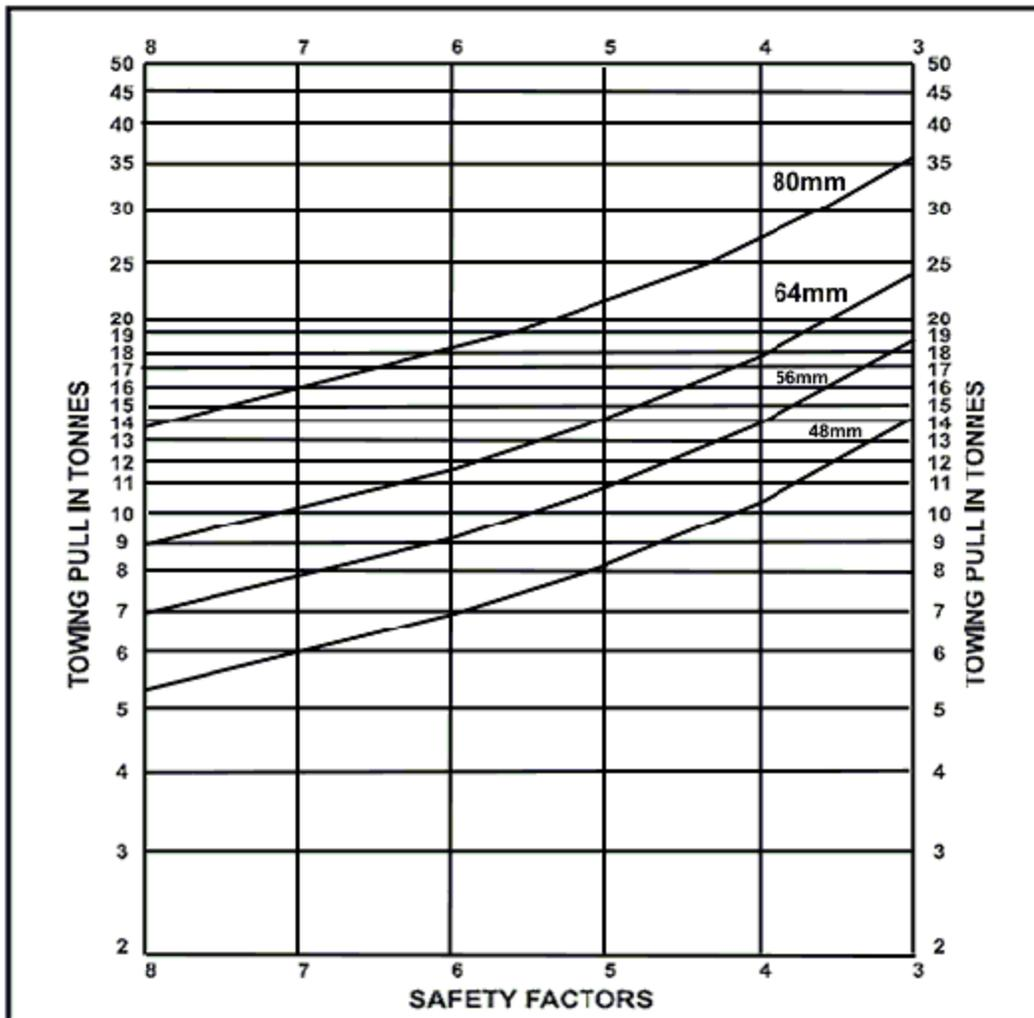
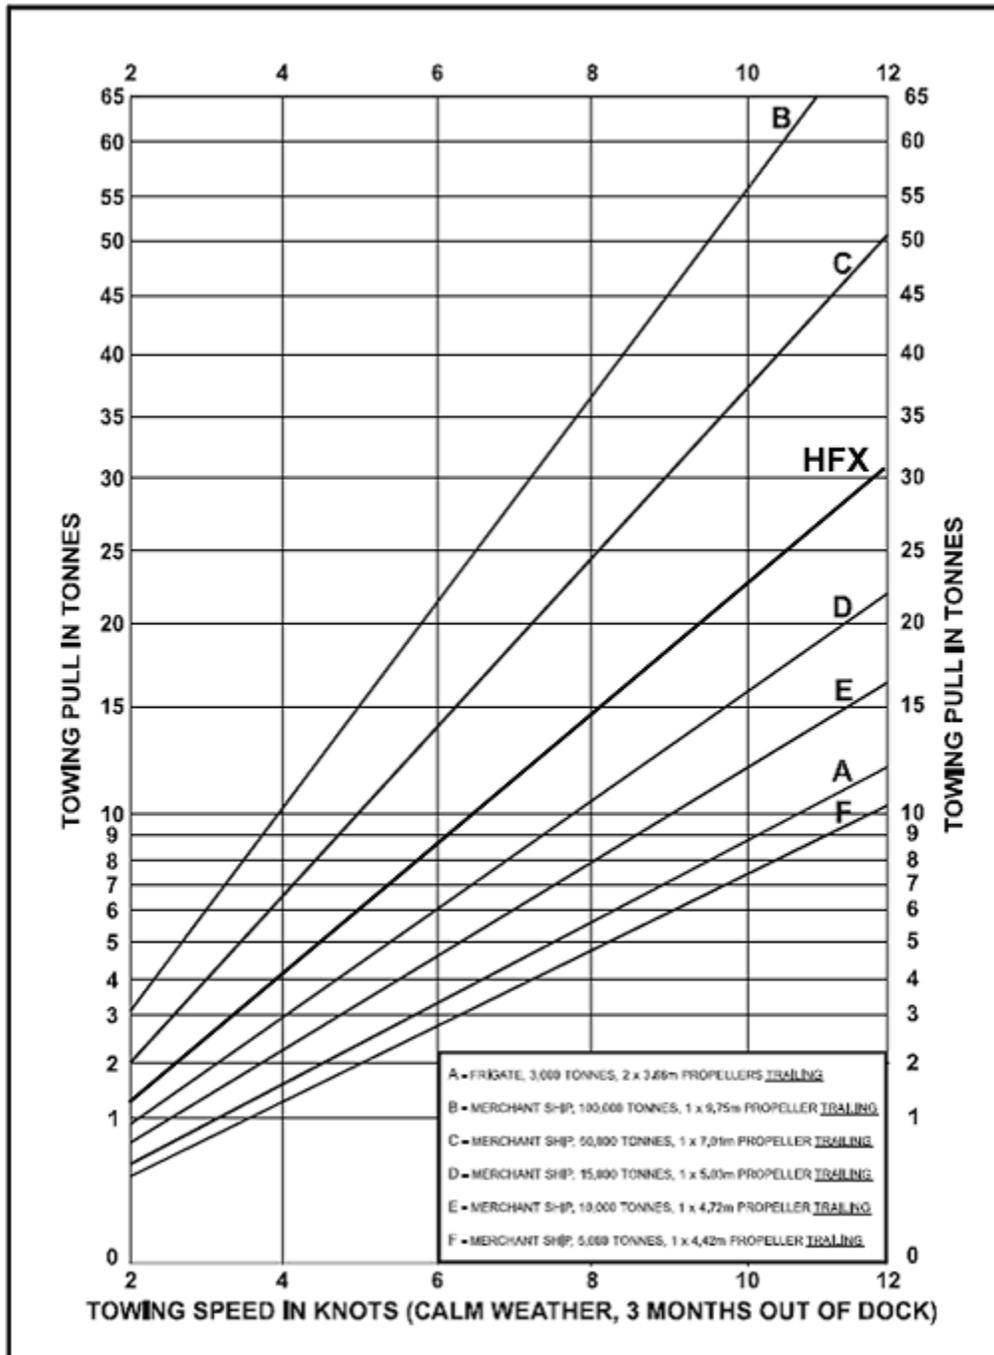
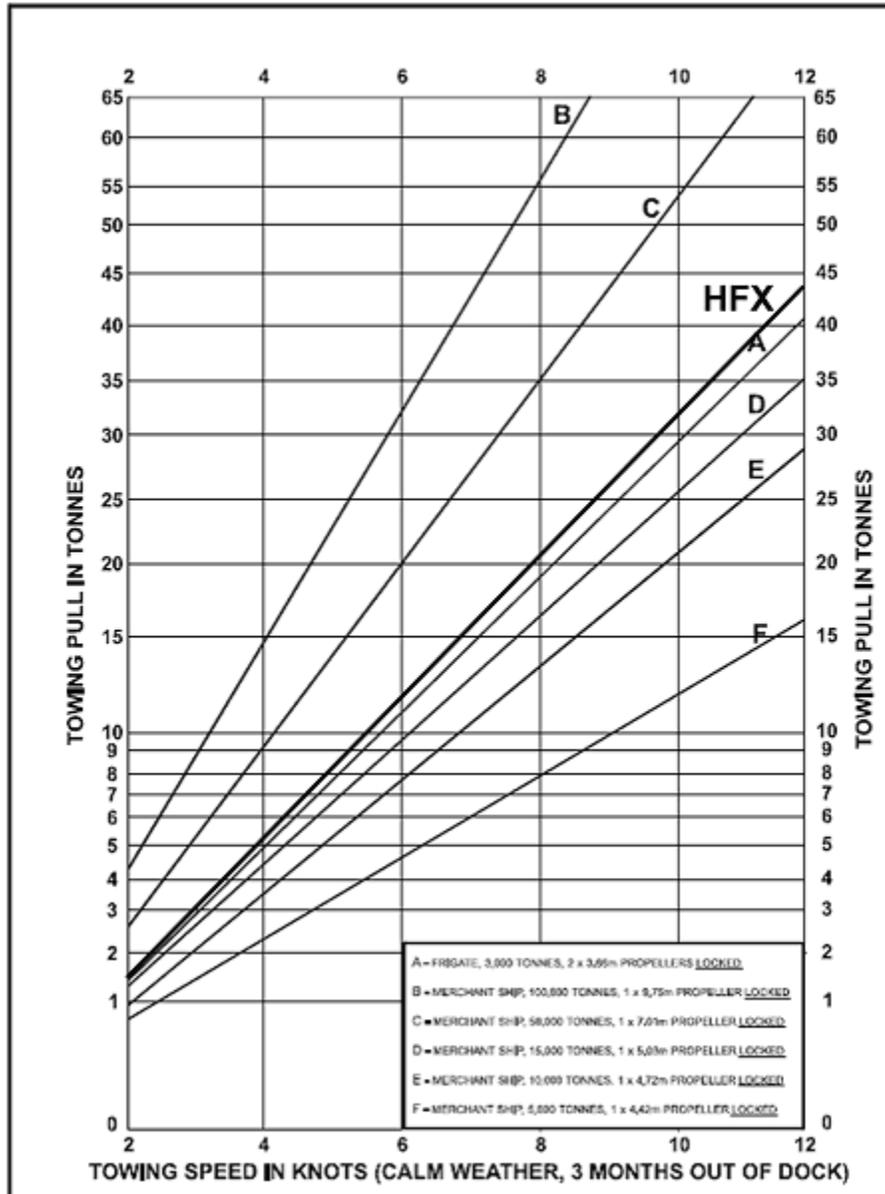

Figure 8.3.1 – Safe Pulling Loads for Polyamide (Nylon) with Safety Factors
Figure 8.3.2 –Towing Speeds Achieved with Specific Towing Pulls on Various Types of Ships with Propellers Trailing
Figure 8.3.3 - Towing Speeds Achieved with Specific Towing Pulls on Various Types of Ships with Propellers Locked
a. The speed of a tow depends on the power of the towing ship, the strength of the towing hawser, the tonnage and type of ship under tow and circumstances and conditions prevailing at the time. The towing power of a tug is usually expressed as bollard pull and the strength of a tug's towing hawser will usually match its maximum bollard pull. However, the power of a warship will usually be capable of exceeding the breaking strain of her towing hawser, so it will only require comparatively low propulsion power to conduct a tow for which she has provided the towing hawser. Examples of the approximate pull required in a tow to achieve a given speed for a ship of a given type and displacement are shown in Fig 8.3.2. These examples assume the tow is conducted in calm weather and the bottom of the towed ship is clean.
b. To calculate a safe loading on a towing hawser a factor of safety should be applied based on the urgency of the tow, duration of the tow, state of the casualty, weather conditions, etc. For long distance tows, a high factor of safety should be applied to reduce the safe towing pull that should be used. This factor of safety, usually between 3 and 8, is a divisor of the towing hawser's breaking load. For example, if a towing hawser has a breaking load of 40 tons and a factor of safety of 4 is considered appropriate, the towing hawser should not be subjected to a load greater than 10 tons. Fig 8.3.1 provides safe towing pulling loads with safety factors for various sized hawsers. Fig 8.3.2 and Fig 8.3.3 provide towing speeds achieved with specific towing pulls on various types of ships.
c. To use the graphs in Figs 8.3.2 and 8.3.3:
- (ii) Determine the safe towing pulls based on hawser diameter using Fig 8.3.1
- (iii) Select the safe tow speed from Fig 8.3.2 or 8.3.3